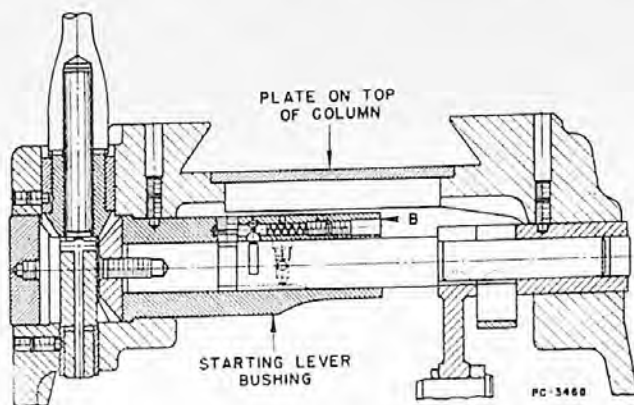

FIGURE 143A
To Adjust Hydraulic Oil Pressure in Column (Figures 143A, 142B)
2. Pull overarm forward and remove steel plate from top of column between ways. (Figure 143A)